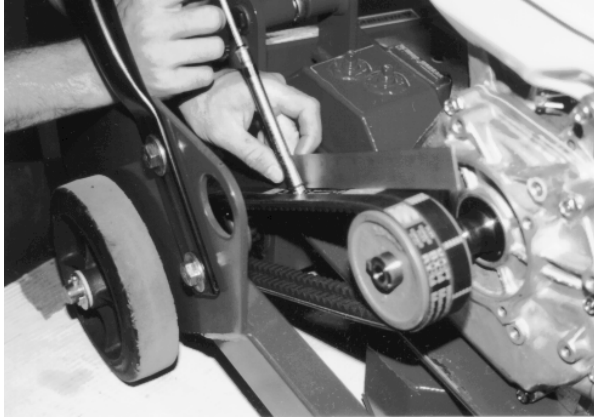

FIGURE 35
- 4) Check the belt tension using the spring scale or belt tension tool midway between the engine/motor pulley and the arbor shaft pulley. Belt tension should measure approximately 0.22 inch at 3-1/4 to 4-3/8 lbs. measured force range. FIGURE 35. If tension is within specifications, proceed to Step 5. If tension is not within specifications, refer to INSTALLING A REPLACEMENT V-BELT for specific information.